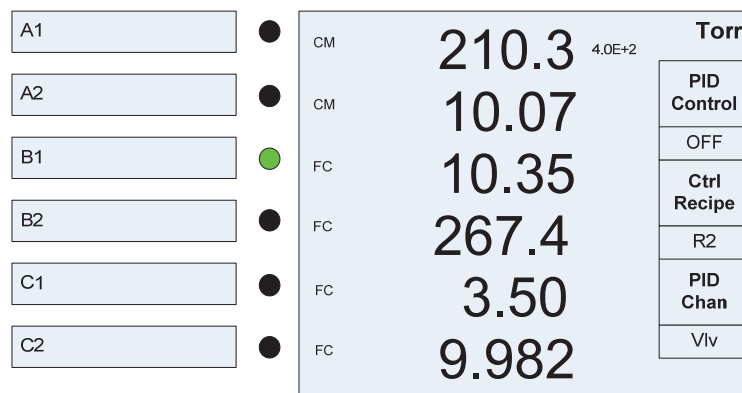

Figure 6-27 Front Panel Display with the Dialog Box for PID Control using a Valve
The activation of a PID dynamic valve control process is identical to activate a PID control using single MFC as described in §6.7.3.1.2. The only exception is that the PID Ch becomes Vlv as shown in Figure 6-27. Once a proper recipe is selected, one can activate a PID pressure control process using a valve by changing the PID Control parameter from OFF to ON.
- Press the  to display the PID Control dialog box as shown in Figure 6-27;
- Switch the PID Control parameter from ON to OFF as shown in Figure 6-27. Once the PID control is turned off, the valve position will be changed to the Preset set point as defined in the recipe as shown in Figure 6-14.